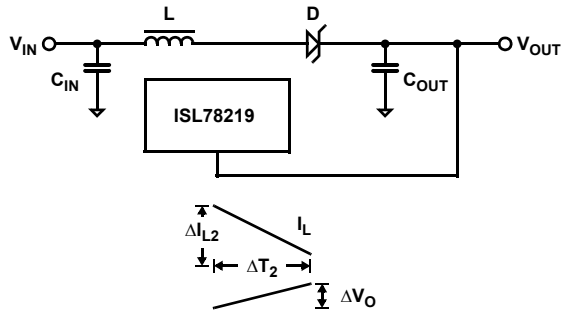

Figure 16. Boost Converter - Cycle 2, Power Switch Open
During the second cycle, the integrated power FET turns off and the Schottky diode is forward biased (see Figure 16 on page 9). The energy stored in the inductor is supplied to the output. This energy is used to charge the output capacitor and supply output current. In this cycle switching node (LX) is held to  $V_{OUT} + \text{Schottky diode drop}$ . Voltage drop across the inductor is  $V_{IN} - V_{OUT}$  (ignoring diode drop across Schottky diode). The change in inductor current during the second cycle is shown in Equation 2: